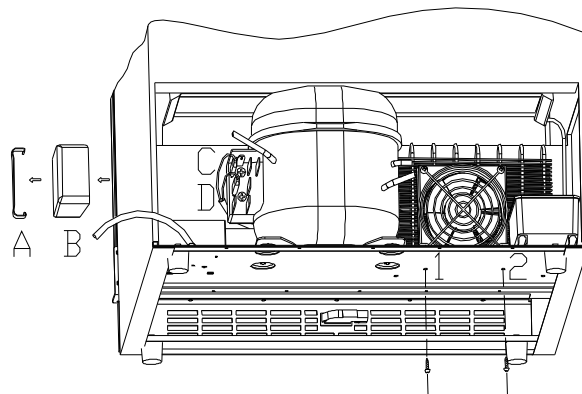

Fig.26
- 1>. Remove the spring (A) , and remove the compressor electrical cover (B) (Fig.26).
- 2>. Remove the two terminal of the fan electrical code(C, D) , mark them before removal to avoid mistake(noted: the diagram below take ZEL compressor as a sample). In fact, different manufacturer's compressor connection is different, and mark it before unplugging the connection. (Fig.26).
- 3). Remove the two screw (1, 2) of the fans with the Phillips head screwdrivers, and remove the condenser fan(in different model the fan installing position are different,but the replace methods almost same). (Fig.26)